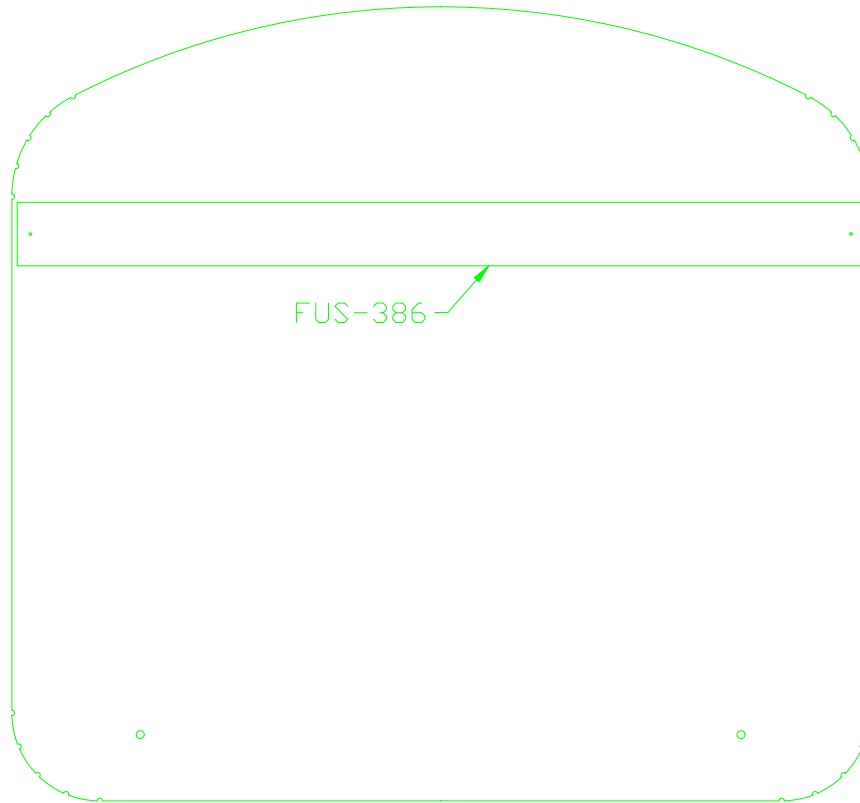

FIGURE 20
31) Center the channel horizontally and vertically over the two #30 holes. Back drill and cleco. Figure 20.